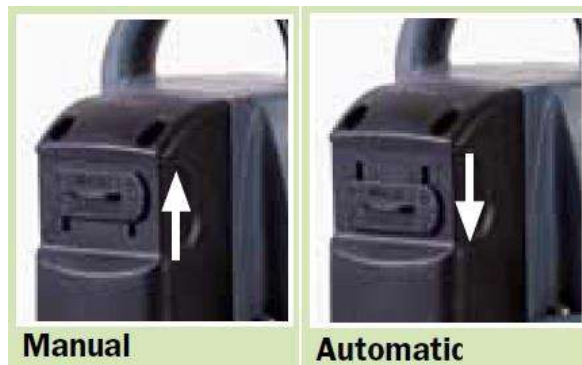

Fig.4
Lower the float switch (4) to “auto” position (see Fig.4).
Raise the float switch (4) to “MAN” position (see Fig.4).